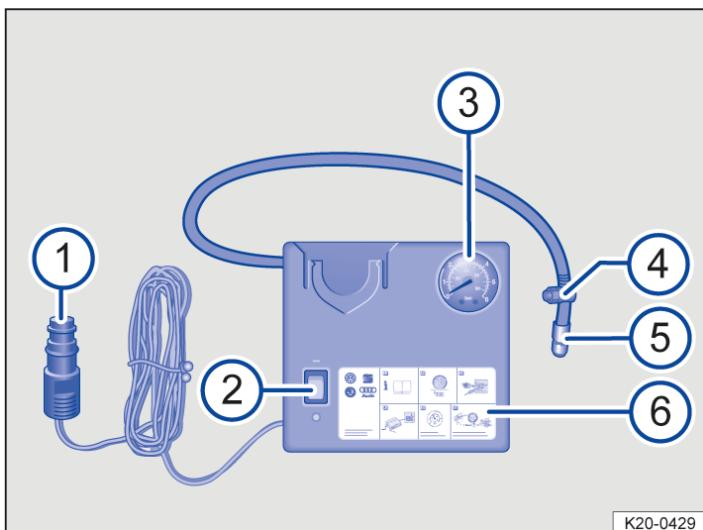

Fig. 2 Illustration: compressor from the breakdown set.
- Screw the tyre filler hose → Fig. 2 5 of the air compressor tightly onto the tyre valve.
- Check that the bleed screw → Fig. 2 4 is closed.
- Insert the 12-volt plug → Fig. 2 1 into one of the vehicle's 12-volt sockets (→ Sockets).
- Use the ON/OFF switch → Fig. 2 2 to switch on the air compressor.